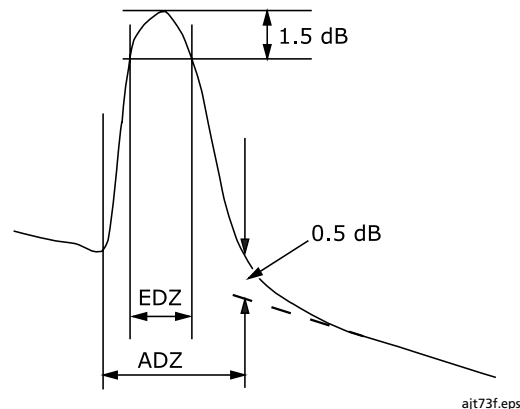

Figure 41. Event and Attenuation Deadzone Measurement Methods5
<ol style="list-style-type: none"> <li>2. Measured at 1.5 dB below reflection peak for typical connector with UPC polish (reflectance &lt; -37 dB multimode) using narrowest pulse width (4 ns at 850 nm; 8 ns otherwise) at near end (100 m, which excludes dispersion). See Figure 41.</li> <li>3. Measured at <math>\pm 0.5</math> dB beyond backscatter for typical connector with UPC polish (reflectance of &lt; -37 dB multimode) using 40 ns pulse width (20 ns at 850 nm) at near end (100 m, which excludes dispersion). See Figure 41.</li> <li>4. Distance ranges for typical fiber loss. For typical fiber with backscatter coefficients of -67 dB at 850 nm and -74 dB at 1300 nm. Manual mode provides a nominal 8 km range for multimode; however, the typical ranges for measuring loss are shown here.</li> <li>5. SNR=1 method. Subtract 1.56 dB to compare to Telecordia 98 % method.</li> </ol>
1. For singlemode: measured at 1.5 dB below the reflection peak for a typical singlemode UPC connector (< -50 dB reflection using 5 ns pulse width). Refer to Figure 41.
2. For singlemode: measured at  $\pm 0.5$  dB beyond the backscatter for a typical singlemode UPC connector (< -50 dB reflection using 20 ns pulse width). Figure 41.